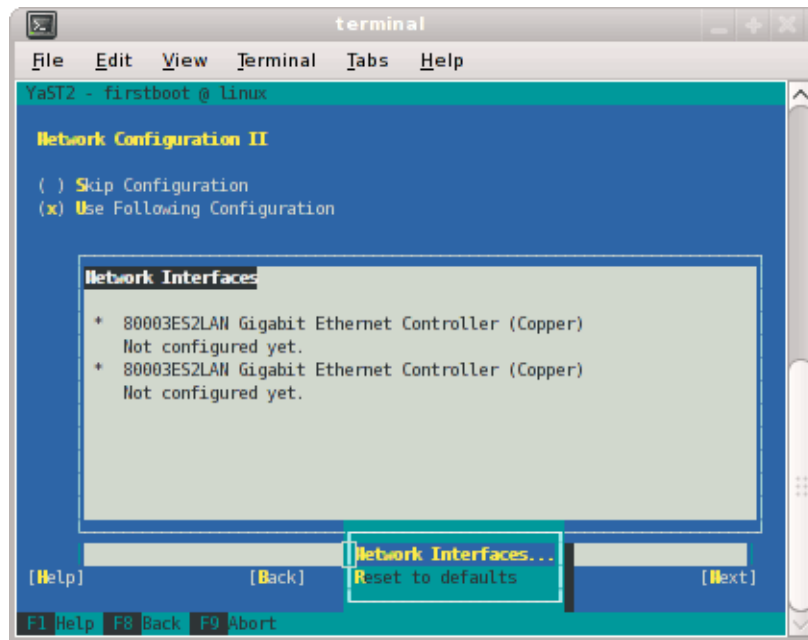

Figure 1-8 Network Configuration II Screen
6. The **Network Configuration II** screen appears, as shown in Figure 1-8 on page 15. Select **Change** and a small window pops up that lets you choose **Network Interfaces...** or **Reset to Defaults**. Choose **Network Interfaces**.